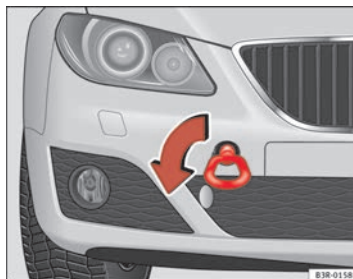

Fig. 244 Fitting the towing eye to front rear of the vehicle
- Bolt the eye to its limit to the *left*, in the direction of the arrow ⇒ fig. 244 ■